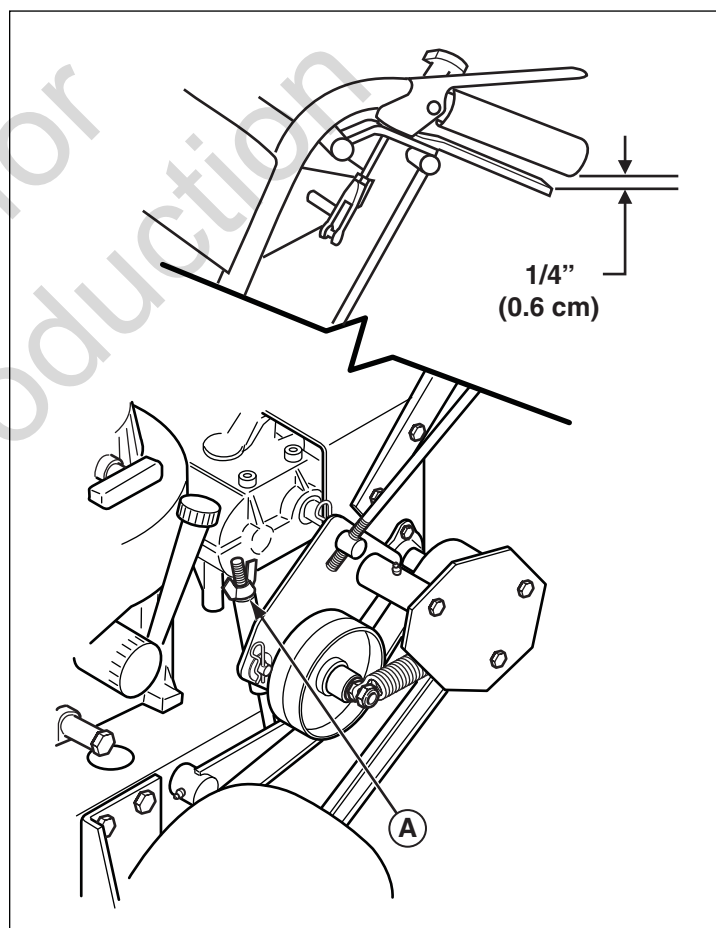

Figure 19. Brake Adjustment
While squeezing the steering levers, there should be 1/4" (0,6 cm) of clearance in between the handle bars and steering levers (see Figure 19).
2. Turn the wing nut (A, Figure 19) to adjust the distance between the handle bars and steering levers.